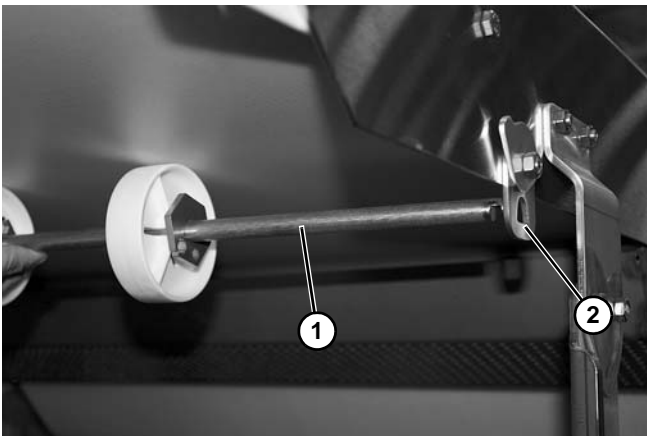

Figure 24
5. Install belt return assembly (Figure 24, item 1) onto return brackets (Figure 24, item 2).